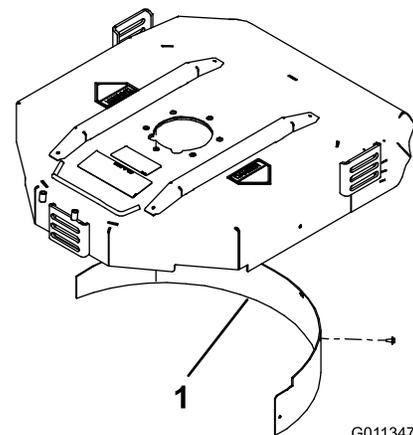

Figure 20
- Install the mulching baffle in the rear opening and secure it with 5 flange head bolts (Figure 20).